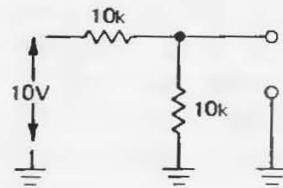

Figure 1.106
- (1) Find the Norton equivalent circuit (a current source in parallel with a resistor) for the voltage divider in Figure 1.106. Show that the Norton equivalent gives the same output voltage as the actual circuit when loaded by a 5k resistor.